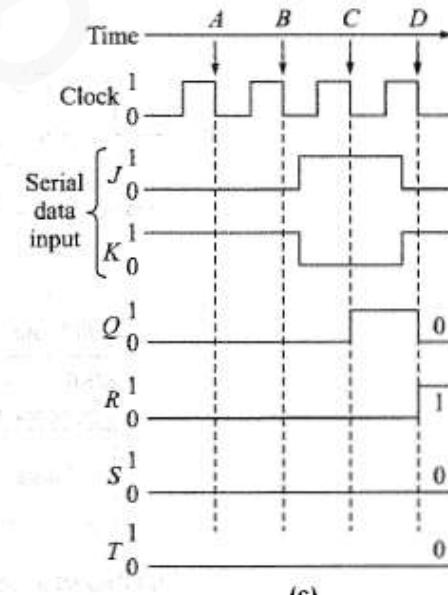

Figure 9.2: 4-bit serial input shift-register
- A common clock drives all the flip-flops (Figure 9.2).